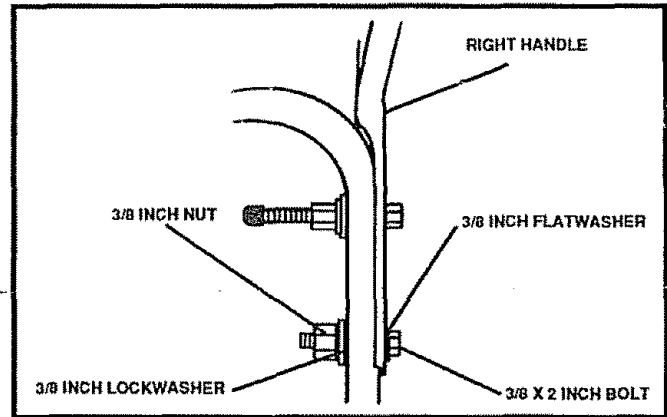

FIG. 4A
- On the right side of the handle, install and secure the following parts (found in parts bag) in the lower handle hole as shown in figure 4A: